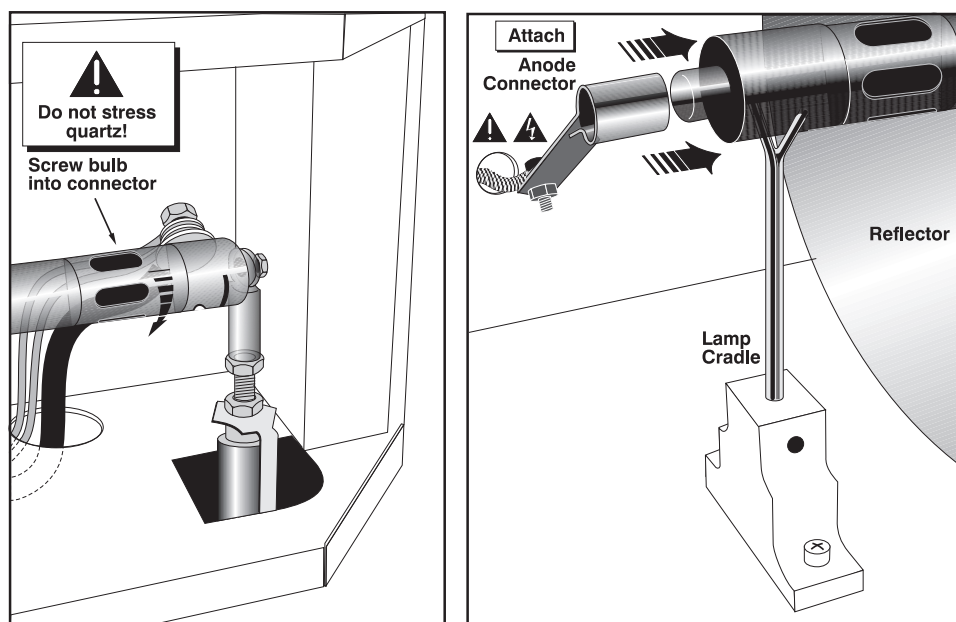

Figure 6.1. Install Bulb
- 8.1 With protective clothing and shield on, insert the threaded cathode (–) end of the lamp into the negative lamp connector nut located in the rear of the lamp compartment and screw in fully (Figure 6.1, left). Hand-tighten only.
8.2 Rest the anode (+) end of the lamp on the lamp cradle as shown in Figure 6.1, right, and slip the positive lamp connector over the bulb end.